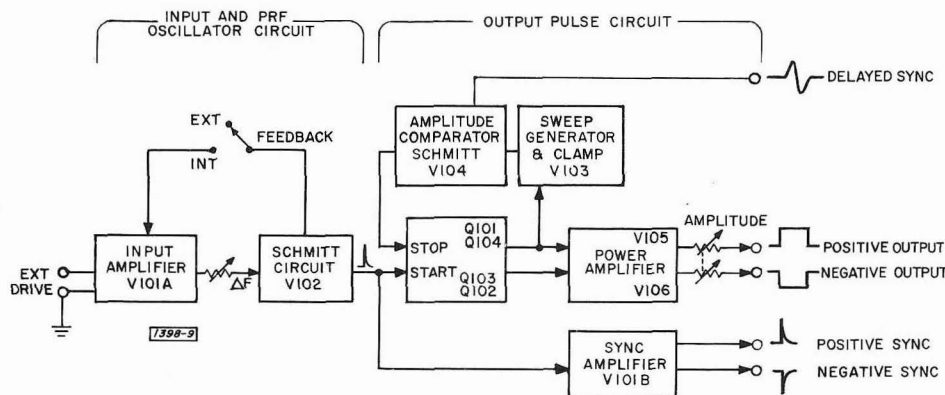

Figure 4-1. Block diagram of the Type 1398-A Pulse Generator.
4.1 GENERAL. (See Figure 4-1.)
The Type 1398-A is composed of three basic sections: (1) the input and prf oscillator circuit, (2) the output pulse circuit, and (3) the power supply. The first two sections are shown in block diagram form in Figure 4-1.